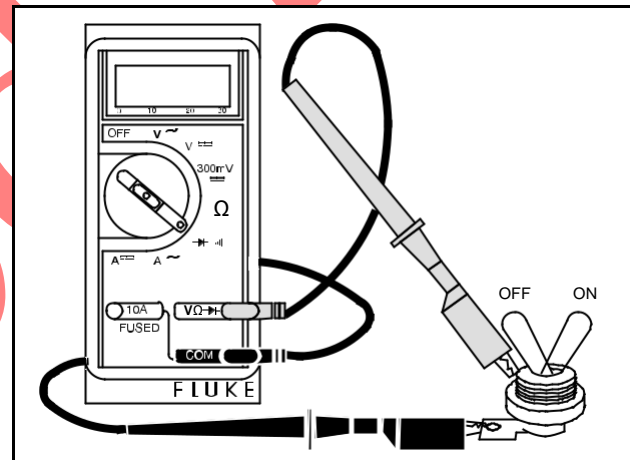

Fig. 33 – Checking Anti-Afterfire Solenoid Switch
4. Move switch to "ON" position. There should be no continuity, Fig. 33.